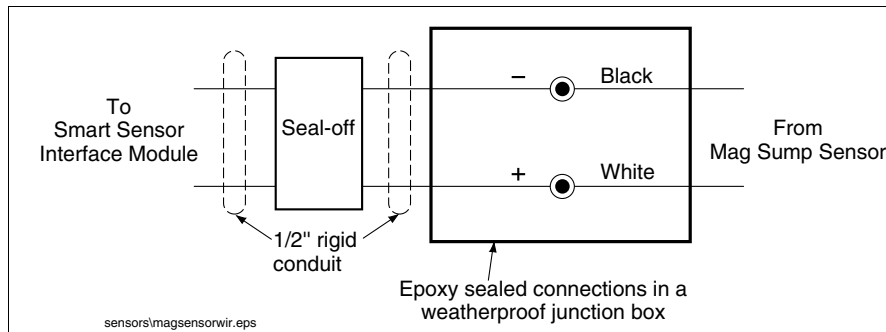

Figure 4. Field Wiring Connections (Observe Polarity)
4. Using wire nuts, connect the two-wire cable to the field wires from the console as shown in Figure 4.